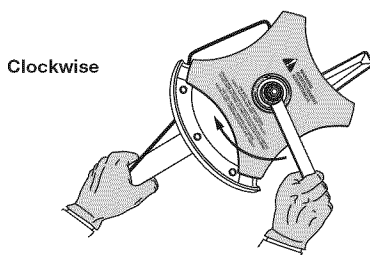

Fig. 5
2. Hold the locking rod in place by grasping it next to the boom of the unit (Fig. 5).
3. While holding the locking rod, loosen the nut on the blade by turning it clockwise with a 5/8 inch closed-end or socket wrench (Fig. 5).